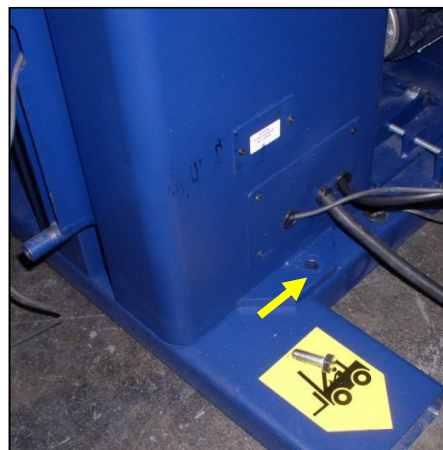

Figure 7.40
7. Use a 19 mm socket to remove the bolt that attaches the mast to the base (Figure 7.40).